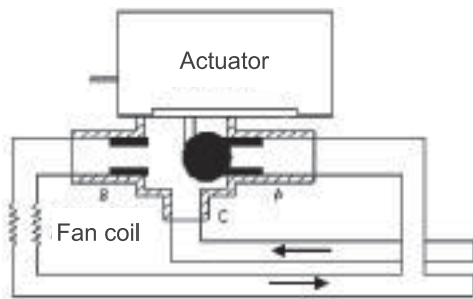

Fig.1
HR-G3 series three-way motorized valves are used to control the cool/heat water flowing through or by pass the fan coil unit. When a thermostat sends the controlling signal to the motorized Valve, the valve is turned on to let water flow from C to B (Fig. 1), and when the signal disappears, the valve, with the help of its own spring, returns back to its original position to change the water flow from C to A(Fig. 2).
- i. There must be enough space for the unit installation and maintenance. Please refer to Figure 1 for the unit's outlines and dimensions and Figure 2 for the minimum distance between the unit and the obstacle.